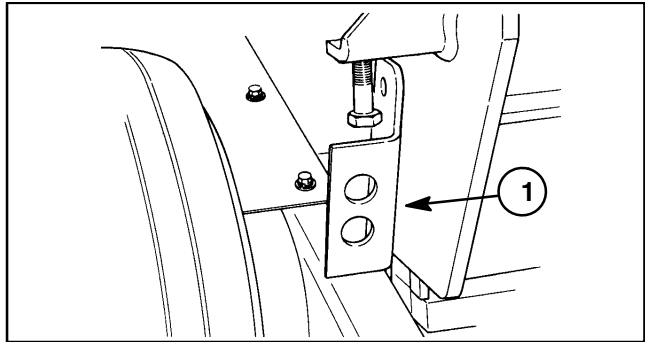

Figure 1
2. Raise lock-up brackets on each side of machine and lower coring head until it rests on brackets (Fig. 1).